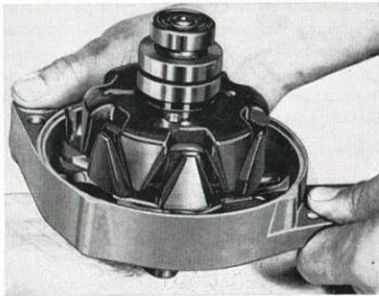

Fig. 3-8. Removing drive end shield
- Release the three screws holding the support plate of the drive end bearing. Release the bearing by knocking the end of the shaft against a piece of wood, see Fig. 3-8.